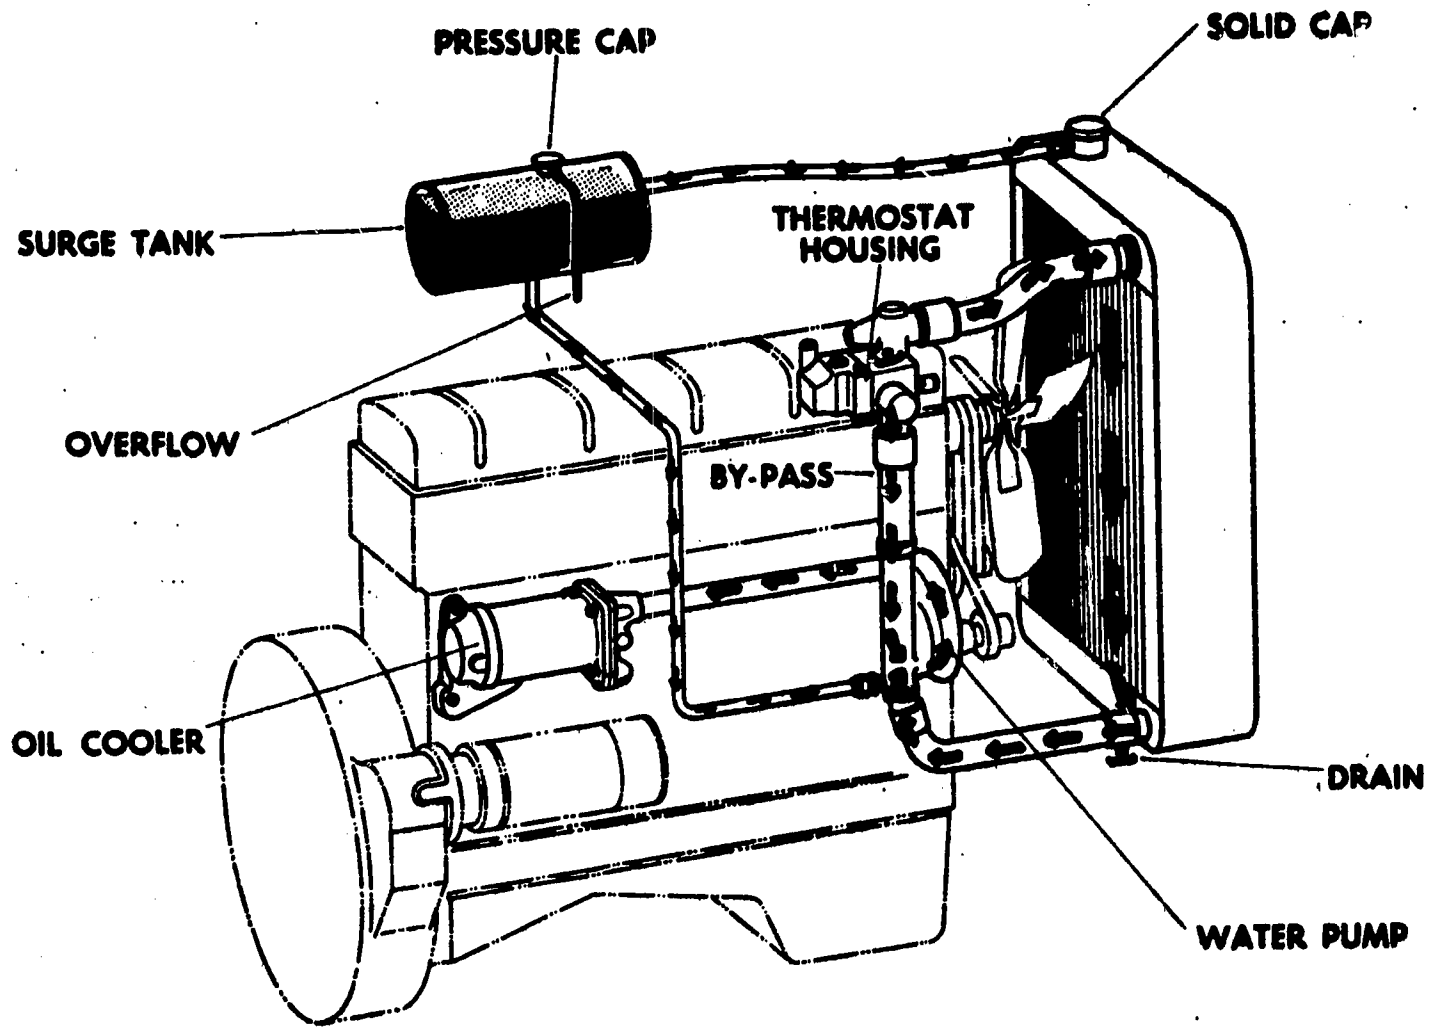

Fig. 9 Cooling system with auxiliary tank installed.
**SURGE TANK** - The most effective way to prevent air entrainment in the cooling system is to provide a surge tank, or auxiliary coolant tank, see Figure 9. In a system where a surge tank is used at a level above the upper tank of the radiator, the coolant from the auxiliary tank flows into the engine cooling system through an inlet connection at the bottom of the radiator. This maintains the correct coolant level in the upper tank.